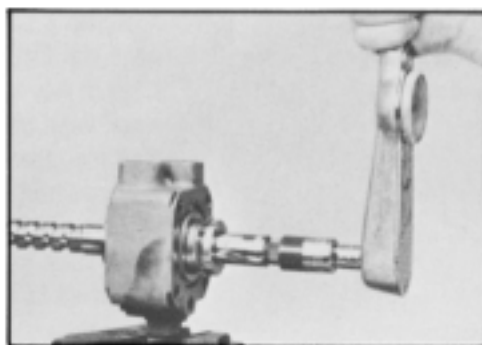

Figure 112
12. Check for free rotation of worm shaft (23) in valve assembly (15) and for perceptible end play. SEE FIGURE 112.